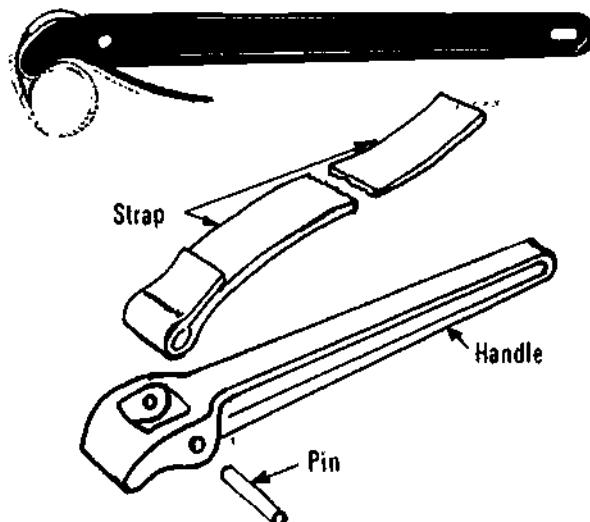

Figure 1-136. Strap Wrench
- The strap wrench shown in Figure 1-136, when correctly used, will not normally mar the chrome finish on a pipe when tightening it in place.